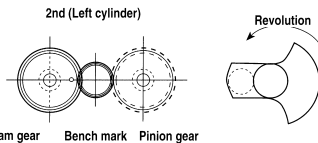

Figure 11
d. Position the left cam gear timing mark (etched line) at the 3 o'clock position (directly into the crankcase) and secure the left cam gear housing. See **Figure 11**.